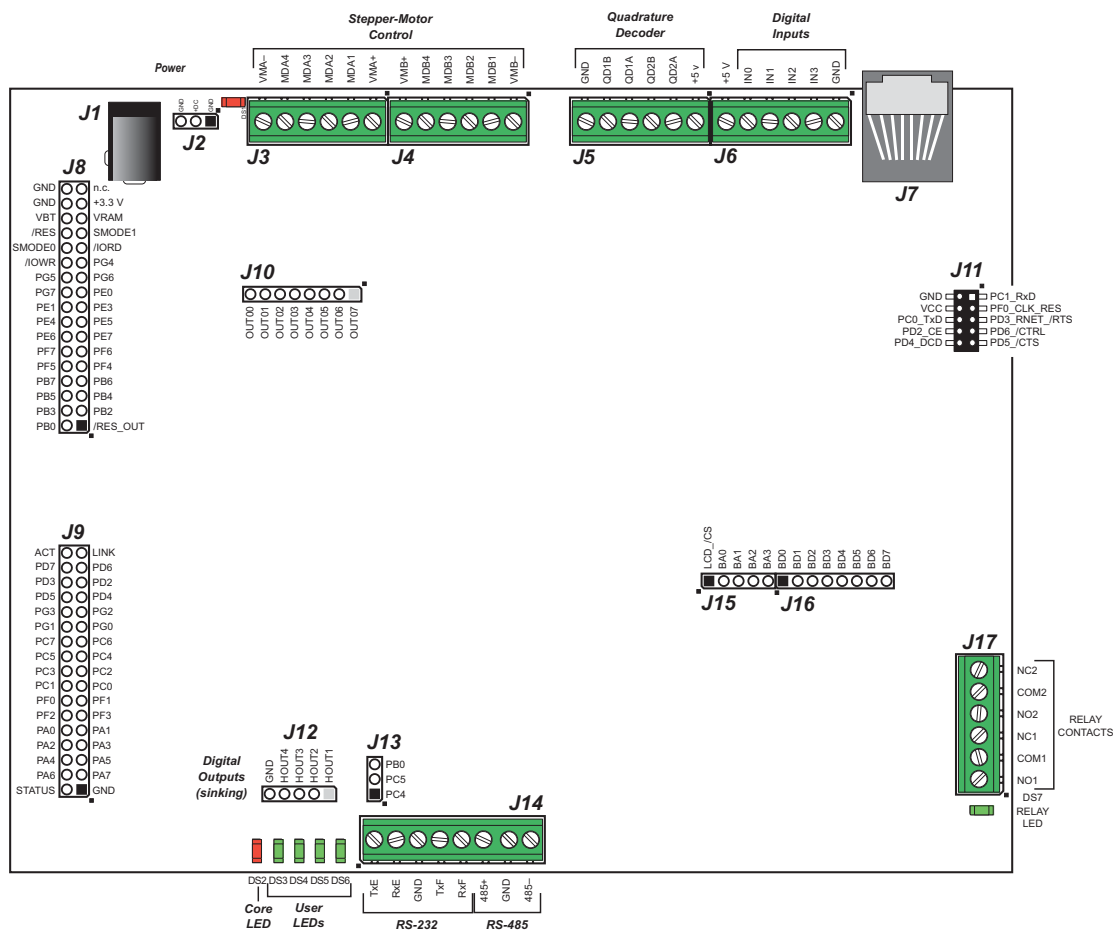

Figure B-4. Prototyping Board Pinout
- **Module Extension Headers**—The complete pin set of the RCM3305/RCM3315 module is duplicated at headers J8 and J9. Developers can solder wires directly into the appropriate holes, or, for more flexible development, 2×17 header strips with a 0.1" pitch can be soldered into place. See Figure B-4 for the header pinouts.
- **Digital I/O**—Four digital inputs are available on screw-terminal header J6. See Figure B-4 for the header pinouts.
- **Quadrature Decoder**—Four quadrature decoder inputs (PF0–PF3) from the Rabbit 3000 chip are available on screw-terminal header J5. See Figure B-4 for the header pinouts.
- **H-Bridge Motor Driver**—Two pairs of H-bridge motor drivers are supported using screw-terminal headers J3 and J4 on the Prototyping Board for stepper-motor control. See Figure B-4 for the header pinouts.
The Prototyping Board pinouts are shown in Figure B-4.